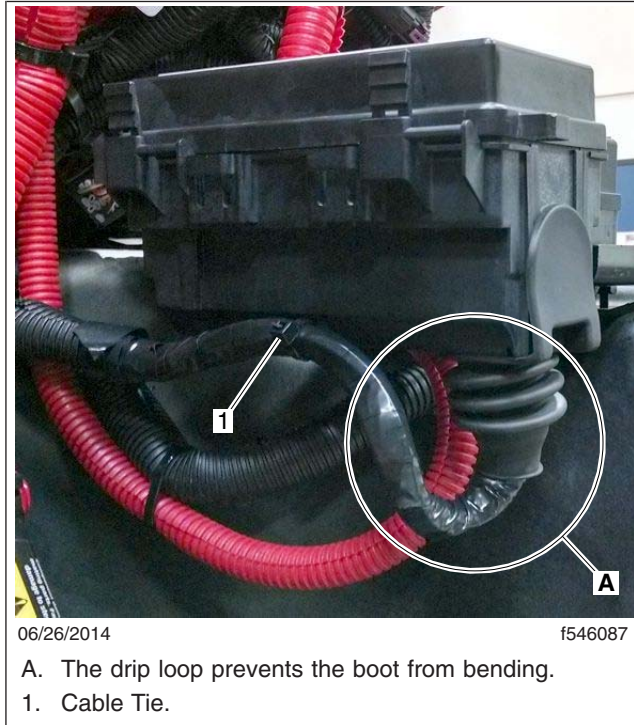

Fig. 2, PDM Harness with a Drip Loop
- 5.4 Tighten the cable tie and secure the harness tightly to the base of the PDM. See Fig. 2.